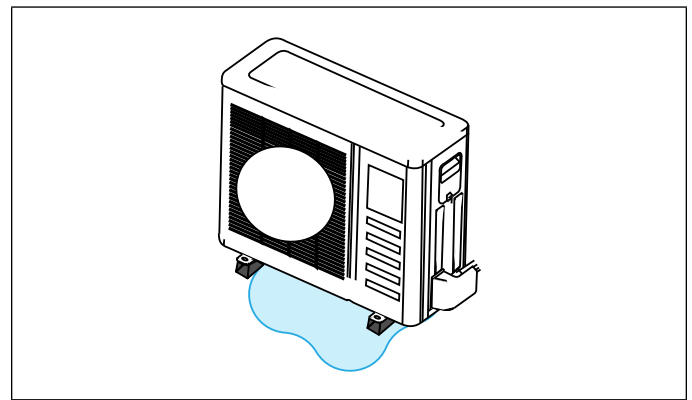

Figure 10. Avoid Defrost Water Ice Hazard
- Carefully consider how to manage defrost water disposal to prevent ice from blocking walkways or creating a safety hazard near the outdoor unit as illustrated in “Figure 10. Avoid Defrost Water Ice Hazard” on page 7.